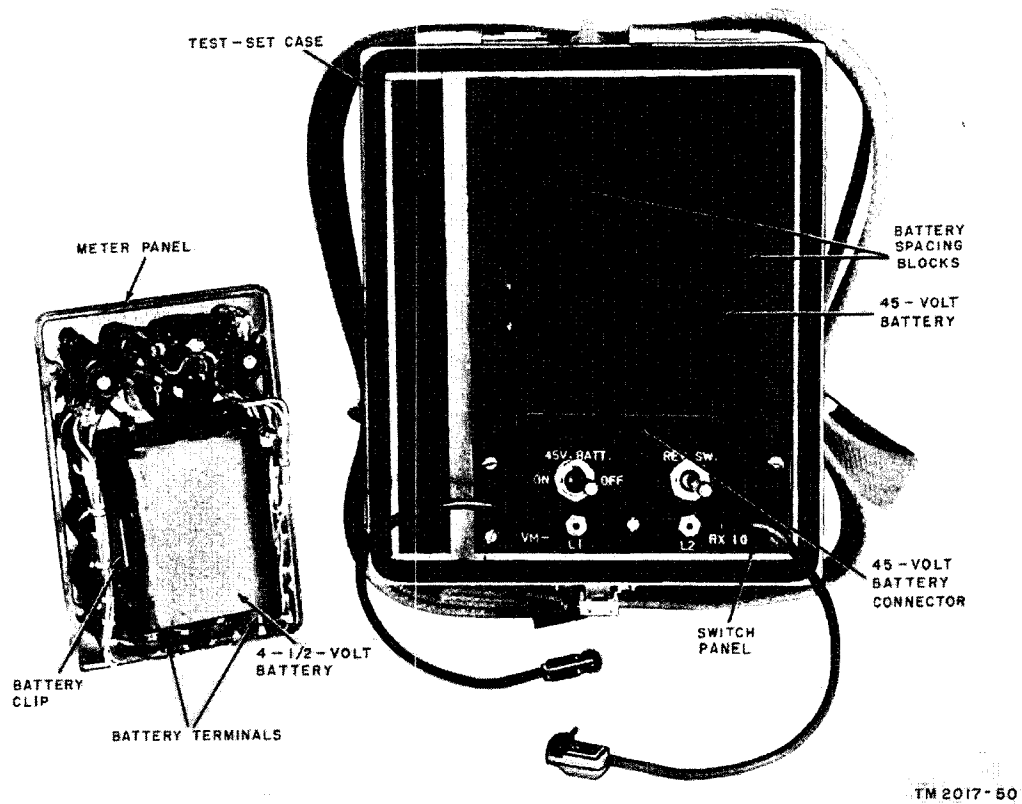

Figure 6. Test Set TS-26A/TSM, meter panel assembly removed, batteries installed.
*k.* Install the 45-volt battery in the test set case between the spacing blocks as shown in figure 6. The end of the 45-volt battery that is attached to the connector must face the top edge of the switch panel.